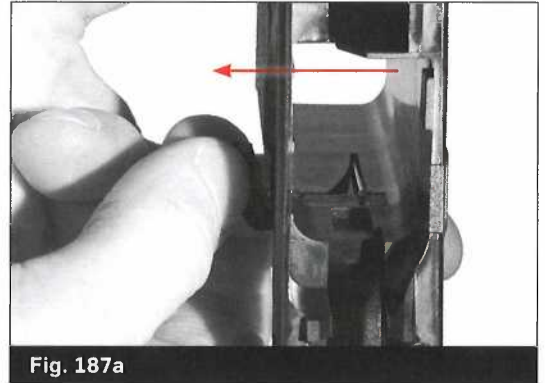

Fig. 187a
- Remove the magazine catch by pulling it out of the frame from the outside. (Fig. 187a)